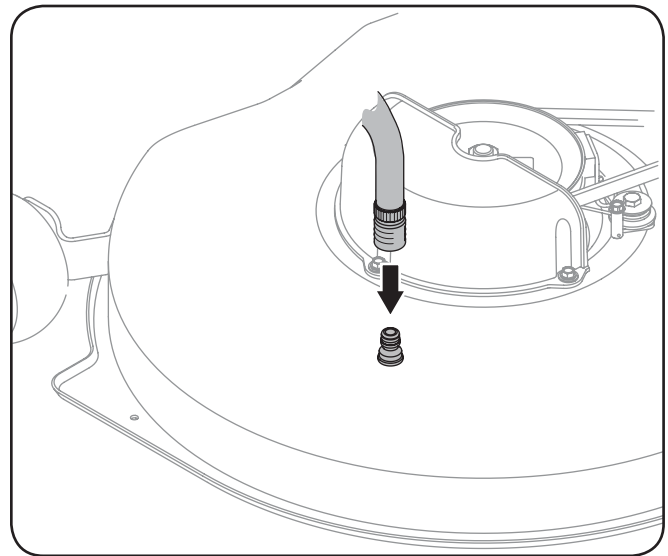

Figure 6-2
4. Attach the hose coupler to the water port on the deck's surface. See Fig. 6-2.